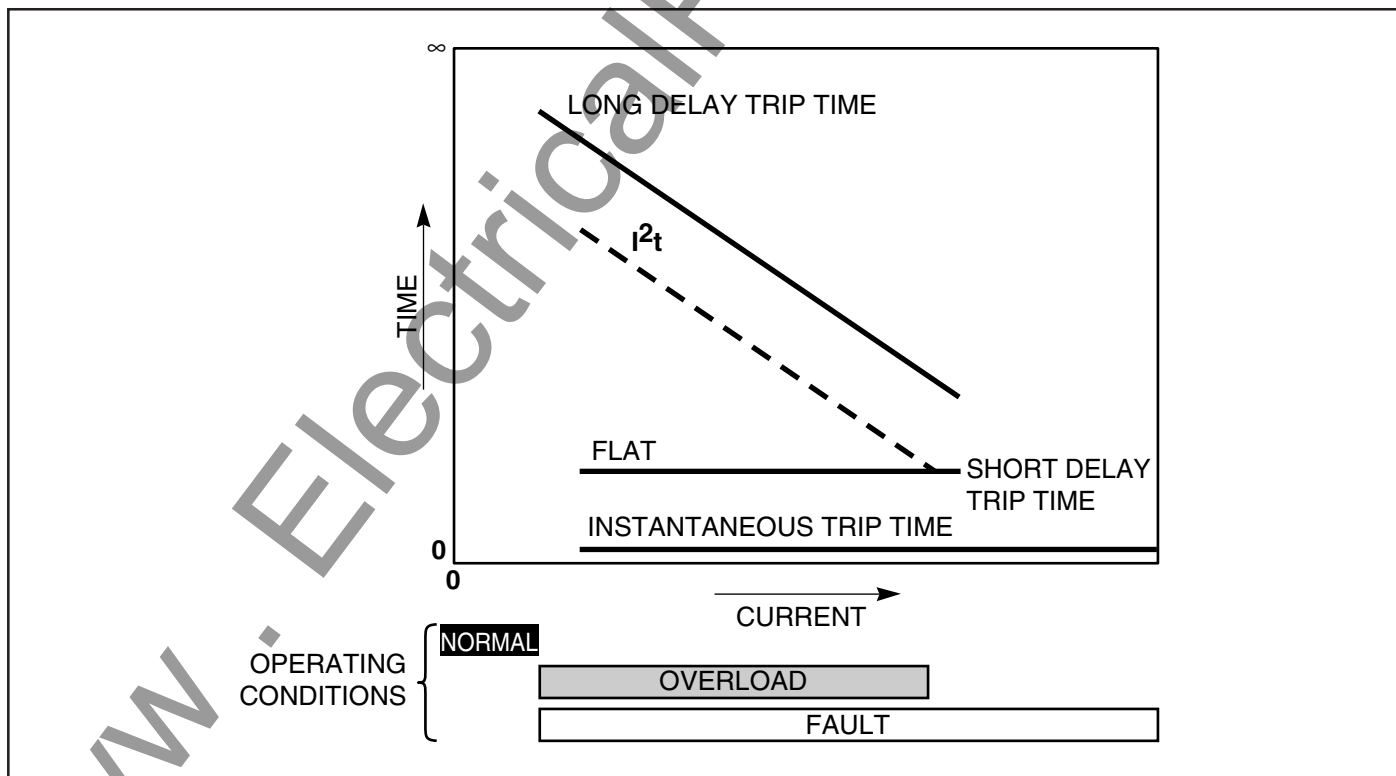

Fig. 14-1 Time-Current Curves
All Digitrip RMS Trip Units are designed to meet the protection requirements of a modern power distribution system. As is shown in Figure 14-1, Application Current Levels can be broken into three typical regions:
Digitrip RMS Trip Units, when set up according to the results of a Power System study of the specific distribution system on which they are applied, will respond to various current levels to provide accurate system protection as well as maximum system stability by properly coordinating with upstream and downstream devices (Figure 14-1).
- For NORMAL currents, the Trip Unit will accurately monitor the current, regardless of current waveform (due to its true RMS sensing system), assuring that up to full rated current may flow through the system without falsely tripping the breaker. This is shown as the NORMAL OPERATING CONDITION in Figure 14-1.
- For OVERLOAD currents, the Trip Unit will accurately assess the true heating value of the current (again a distinct advantage of its true RMS sensing system), and trip out following the LONG DELAY TRIP TIME curve in Figure 14-1. There are actually eight different LONG DELAY TRIP TIME curves available on the Trip Unit (selected by the Long Delay Time switch setting), and each curve follows a constant  $I^2t$  slope for excellent heating protection and coordination with other devices. The lowest level of OVERLOAD current to bring on this response is selected by the Long Delay Pickup setting on the Trip Unit.
- For FAULT currents, the Trip Unit will respond according to either the SHORT DELAY TRIP TIME or the INSTANTANEOUS TRIP TIME shown in Figure 14-1, depending on the fault current magnitude and whether the Short Delay function or Instantaneous function or both are present on the Trip Unit.
The SHORT DELAY TRIP TIME curve in Figure 14-1 shows the time to trip response of the Trip Unit to FAULT currents. There are actually eight different SHORT DELAY TRIP TIME curves available on the Trip Unit (selected by the Short Time switch setting), three of which follow a constant  $I^2t$  slope for best coordination with downstream devices, five of which are FLAT (fixed trip time). The lowest level of FAULT current to bring on this response is selected by the Short Delay Pickup setting on the Trip Unit.
The INSTANTANEOUS TRIP TIME curve in Figure 14-1 shows the time to trip response of the Trip Unit to FAULT currents. This curve is FLAT, providing the most rapid trip time possible (with no intentional delay) to be able to clear the fault as fast as possible and minimize the damage to the system. The lowest level of FAULT current to bring on this response is selected by the Instantaneous Pickup setting on the Trip Unit.